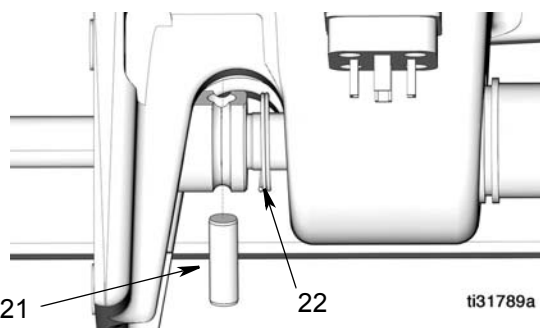

FIG. 33
3. Install pin (21) through alignment hole. Push retaining spring (22) over pin (FIG. 33).